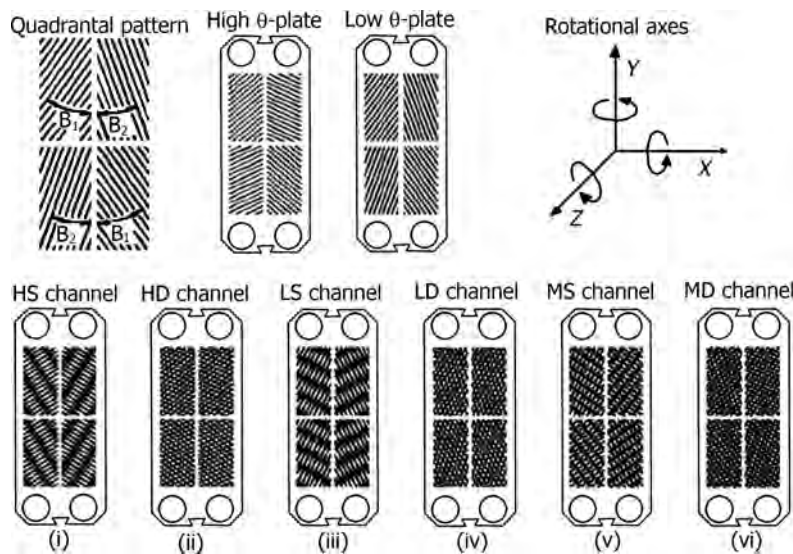

FIGURE 13.14 Asymmetric heat transfer plates and channel combinations.
- The asymmetrical plate has heat transfer section divided into four quadrants, with two different angles, B_1 and B_2 , as shown in Figure 13.14.
- *HS Channel*: Two high- θ plates combined with arrowheads in the same direction, Figure 13.14(i).
- *HD Channel*: Two high θ -plates combined with arrowheads in the opposite direction, Figure 13.14(ii).
- *LS Channel*: Two low θ -plates combined with arrowheads in the same direction, Figure 13.14(iii).
- *LD Channel*: Two low θ -plates combined with arrowheads in the opposite direction, Figure 13.14(iv).
- *MS Channel*: Combining a high and low θ -plate with arrowheads in the same direction, Figure 13.14(v).
- *MD Channel*: Combining a high and low θ -plate with arrowheads in the opposite direction, Figure 13.14(vi).